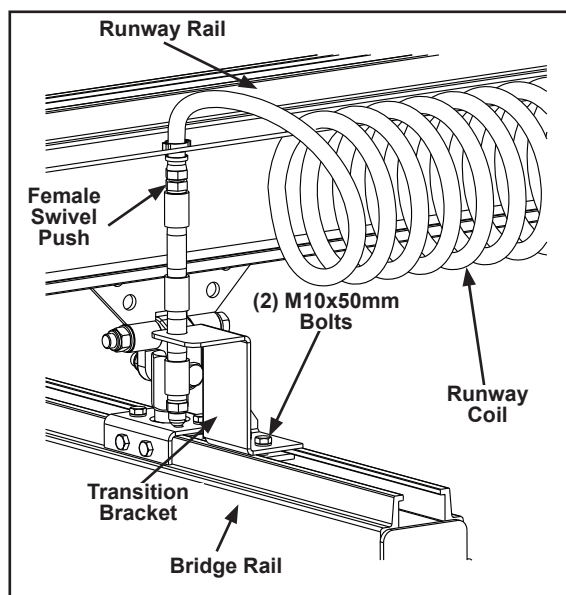

Figure 3-120
- Step 1. Attach transition bracket assembly to bridge rail. See Figure 3-120.
- Step 3. Tighten M10 bolts to secure transition bracket to bridge top rail channel. **Tighten until bolts are snug + ¼ turn.** Do not over tighten. Over tightening could cause bracket to bend. Attach trailing end of runway hose to transition bracket. See Figure 3-120.